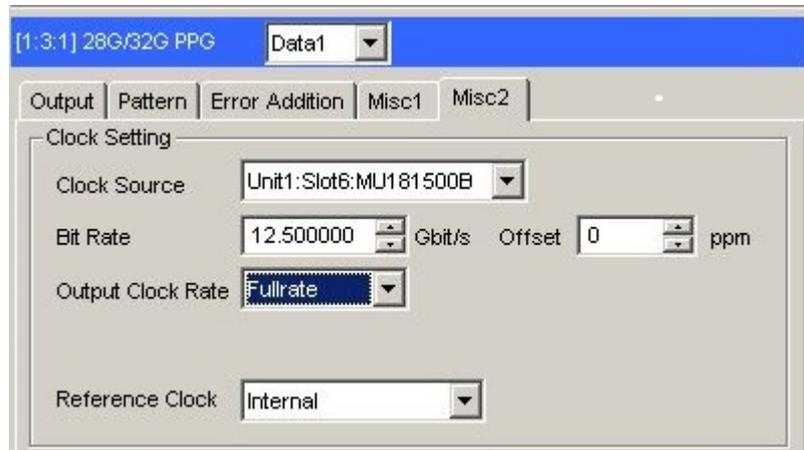

Figure D.3-2 Output Clock Rate Setting on the Misc2 Tab of MU183020A
4. Use a coaxial cable (applicable part, 1.3 m, K connector) to connect MU183020A's Clock Output connector and MP1825B's Clock Input connector. Then, on the **Misc2** tab of MU183020A, select **Full Rate Clock** in the **Output Clock Rate** box. (Figure D.3-2)